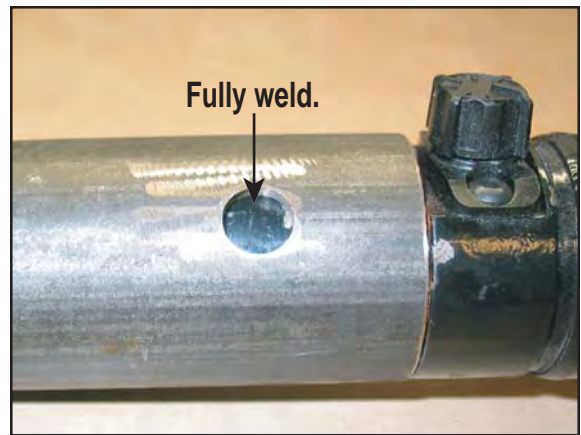

Figure 7
1. Fully weld the adapter tube to the strut using the holes provided (Figure 7).